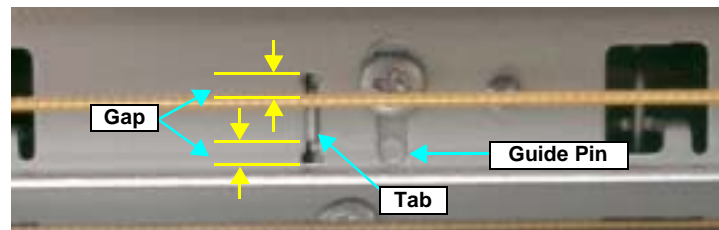

Figure 4-27. Checking the Position of Tab on the Guide Roller LD
4. Align the Guide Pin and Tab on the 0 Digit Side Guide Roller LD with the positioning holes on the Main Frame, and tighten the Guide Roller LD (0 Digit Side) with the screws. See Figure 4-27.